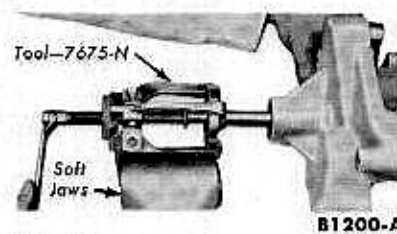

FIG. 2—Hub Removal
1. Remove the back plate and gasket from the water pump, then remove the hub from the impeller shaft (Fig. 2).